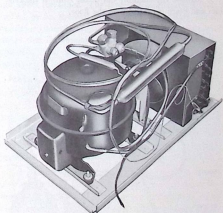

FIGURE 9
3. Mount the fan and shroud (removed from the defective unit) to the replacement. Figure 9 shows the replacement unit with the fan and shroud installed.